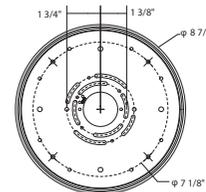

FIG.3
CONNECTING THE WIRES (Fig. 2, Fig 3)
9. **Caution:** If shortening the wire is required: set aside at least 2-1/8" length above the quick release (only for Wire) and cover with silicone sleeve (C)for proper electrical isolation. Cap the wirewith a wire connector P1(D) at the end. See (FIG.3).